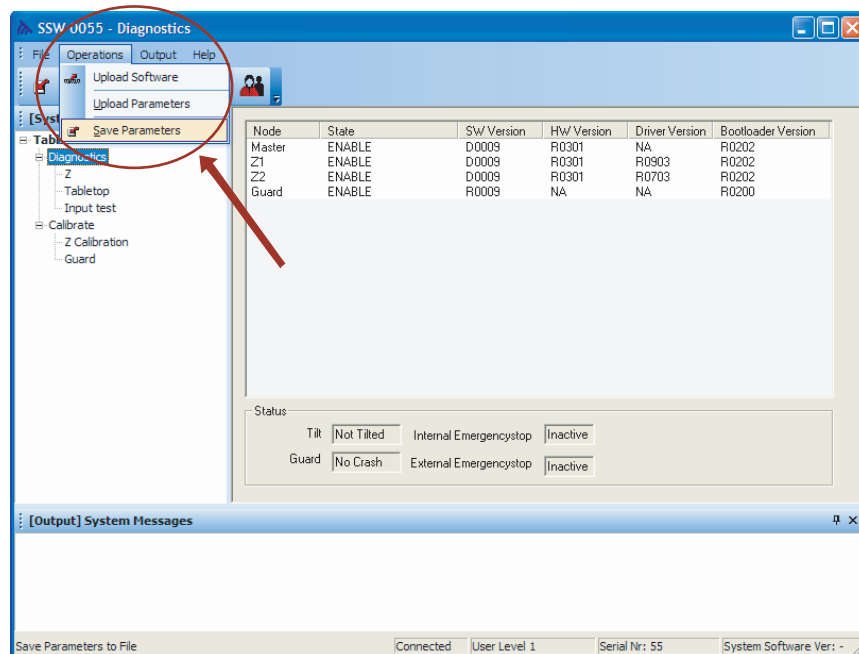

Fig. 4-159
2. Press *Operations* in menu and select *Save Parameters*, see Fig. 4-159 .